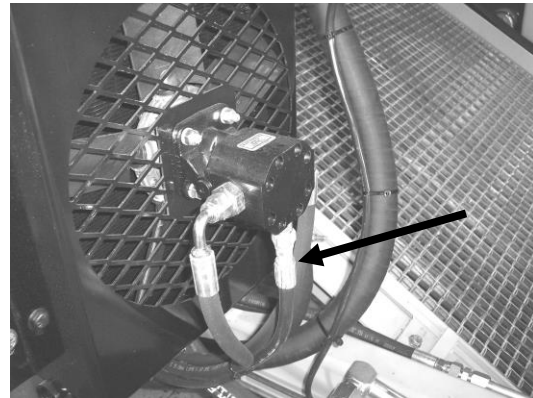

Figure 1—Cooling Fan Motor Case Drain
The cooling fan motor case drain (**Figure 1**) on models prior to serial No. 208 (SR), 109 (SRA) and 108 (AR) is connected to a return-to-tank circuit that is attached to the manual chop valve. See **Figure 2**. Because the fan motor case drain is connected to the chop valve return circuit, it can create enough pressure to cause the chop system to remain in the down position. Routing the fan motor case drain directly to tank eliminates this problem.
To determine if the fan motor case drain is causing the chop mechanism to not return to the up position, disconnect the case drain from the fan motor (**Figure 1**). Plug the hose using a No. 6 JIC plug and cap the motor fitting using a No. 6 JIC cap. Operate the harvester and chop system. If the chop system now operates normally, the fan motor case drain is causing excessive pressure in the return-to-tank circuit.
2. Disconnect the case drain hose from the cooling fan motor **Figure 1**).